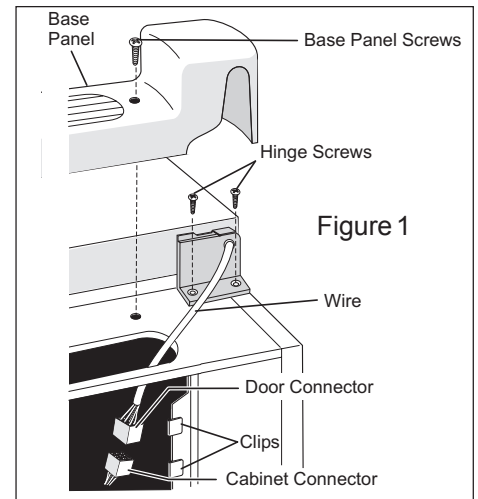

Figure 1
2. Remove two base screws and base panel. Remove wire from clips on bottom of cabinet. (Figure 1)
3. Unplug connector, if required, by holding the cabinet connector in place, and pulling door connector out. (Figure 1)
4. Remove bottom hinge screws. (Figure 1)
Temp Alarm (audible only or audible with warning light - see Figure 1)
- **On upright models** with a defrost drain (Figure 1), remove drain plug on the inside floor of the freezer by pulling straight out. To access external drain tube on models with a base panel, first remove the two screws from the base panel. Locate the drain tube near the left center under the freezer. Place a shallow pan under the drain tube. Defrost water will drain out. Check pan occasionally so water does not overflow. A $\frac{1}{2}$ inch garden hose adapter can be used to drain the freezer directly into a floor drain (Figure 3). If your model is not equipped with an adapter, one can be purchased at most hardware stores. Replace the drain plug when defrosting and cleaning are completed. If the drain is left open, warm air may enter freezer.